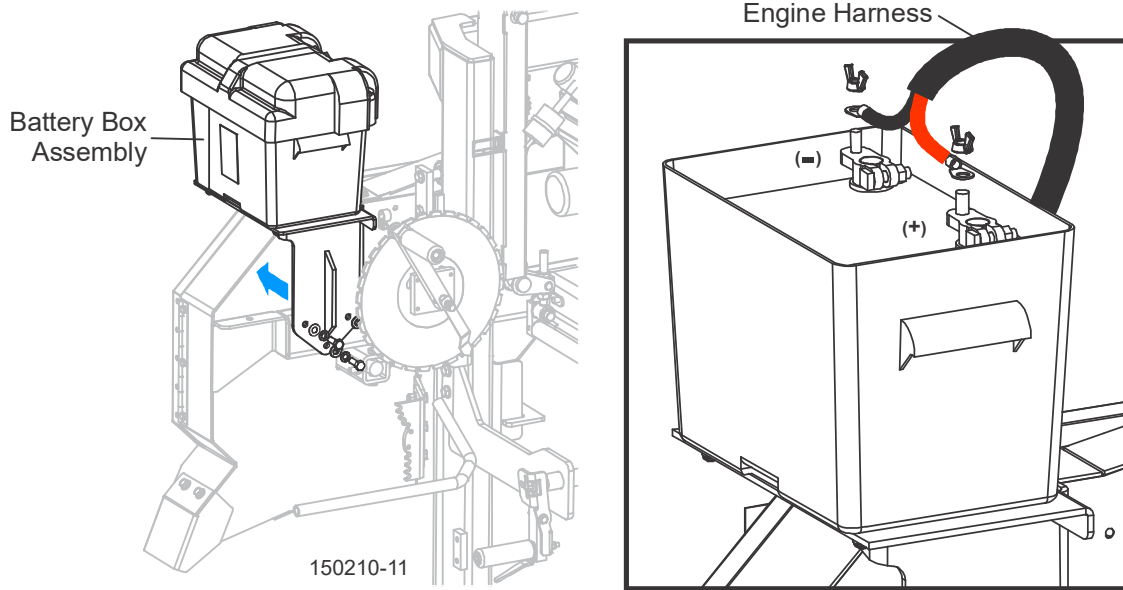

FIG. 3-15
3. Secure the battery box assembly with three 3/8-16 x 1 hex head bolts. See FIG. 3-15.